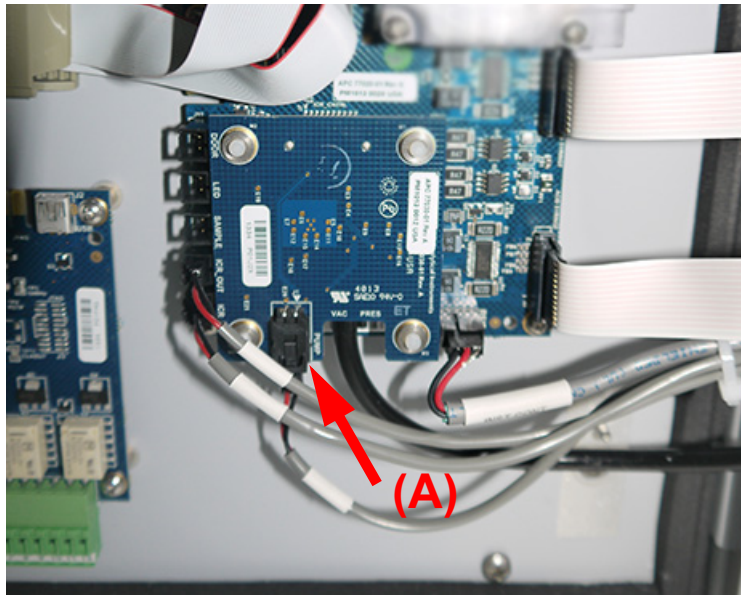
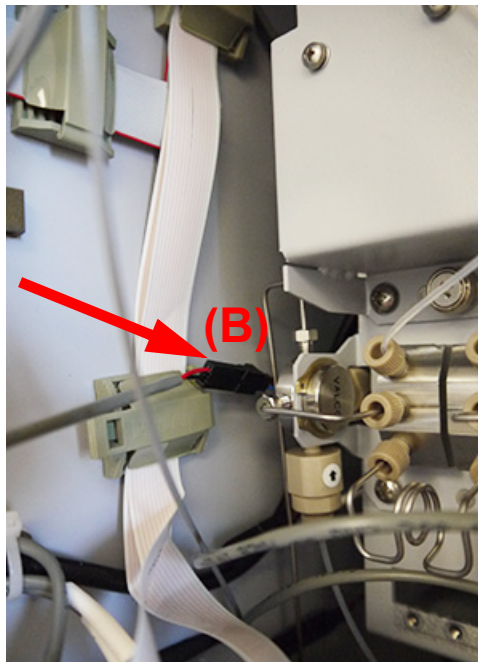

Figure 63: Electronics on Door
Figure 64: Jumper Cable Connection for ICR Pump
3. Remove the panel off the back of the door to locate and identify the ICR pump cable connection (A), (Figure 63). After locating the connection, follow the cable back inside the Analyzer and disconnect the cable at the jumper cable (B), (Figure 64).